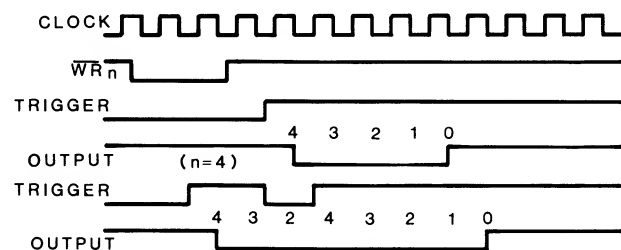

**Figure 14-9. Timing Mode 0**
**Mode 0** — This straight-forward mode will decrement the counter until it reaches 0 and then assert its output line high. Refer to Figure 14-9.